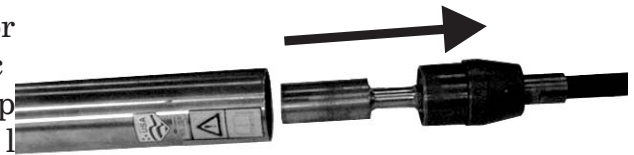

Figure 11-2. Removing Tail Assembly
unthreading the End Cap (9) and pulling the tail assembly from the Body/Anvil (1) as shown in Figure 11-2.